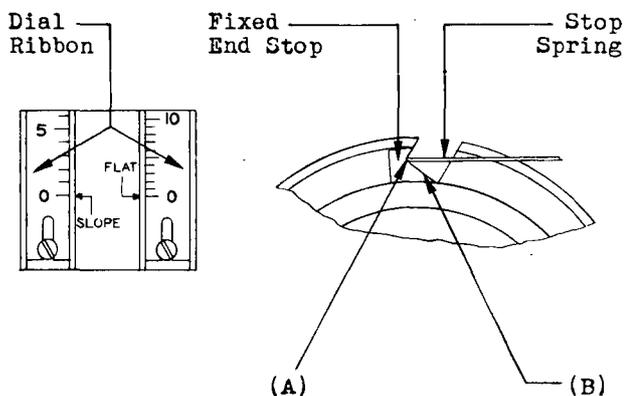

Fig. 5
- FIG.5(B) On each fixed end stop.
- (2) The following points shall be lubricated with 2 drops of oil.
2.04 Dial Ribbon Position: Fig.5(A) - Each dial ribbon shall be positioned so that when the fixed end stop is against the stop spring (maximum travel), the 0 mark (for 0-100 dial ribbon) or 14 mark (for 14-86 dial ribbon) of the dial shall be exactly in line with the indicator mark.